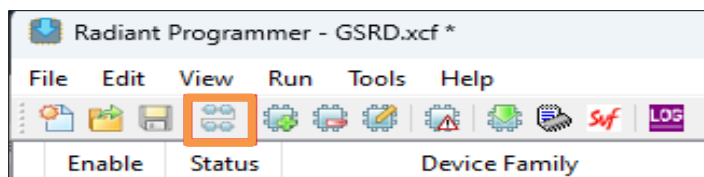

Figure 6.9. Scan Device Icon on Radiant Programmer
- If the **Device Family** shows as **Generic JTAG Device**, click **Scan Device** as shown in Figure 6.9 to update the **Device Family** information automatically.